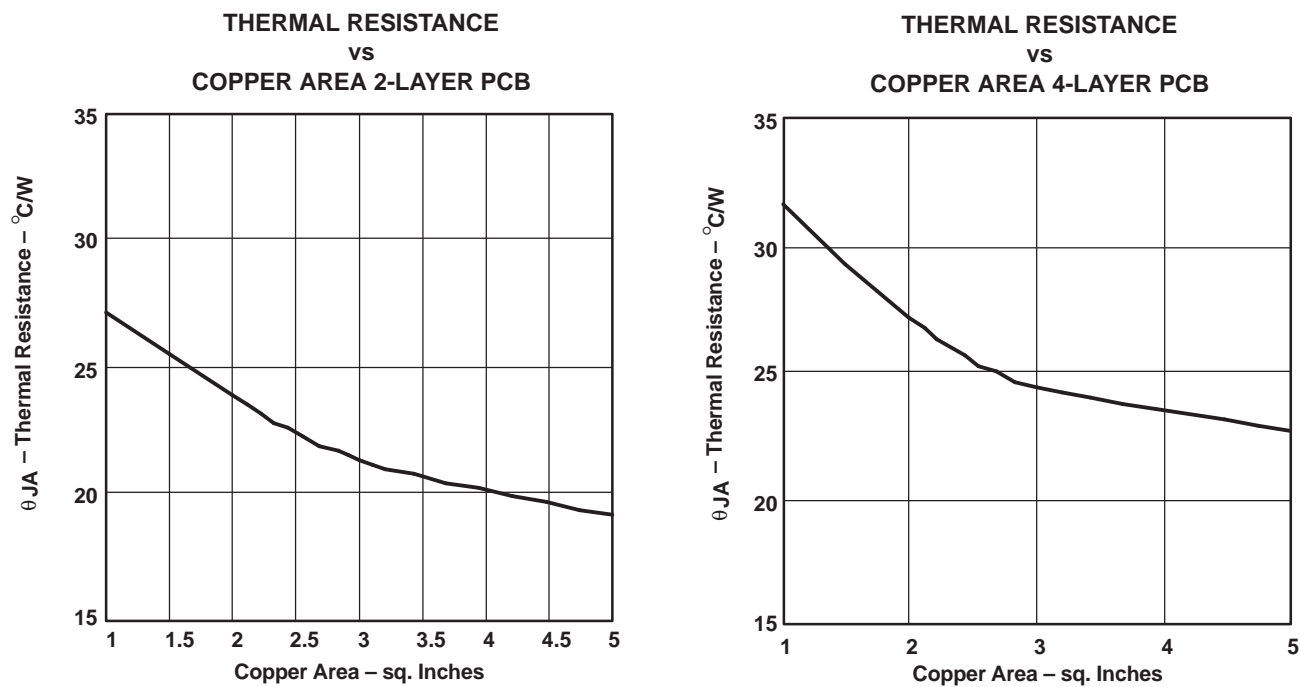
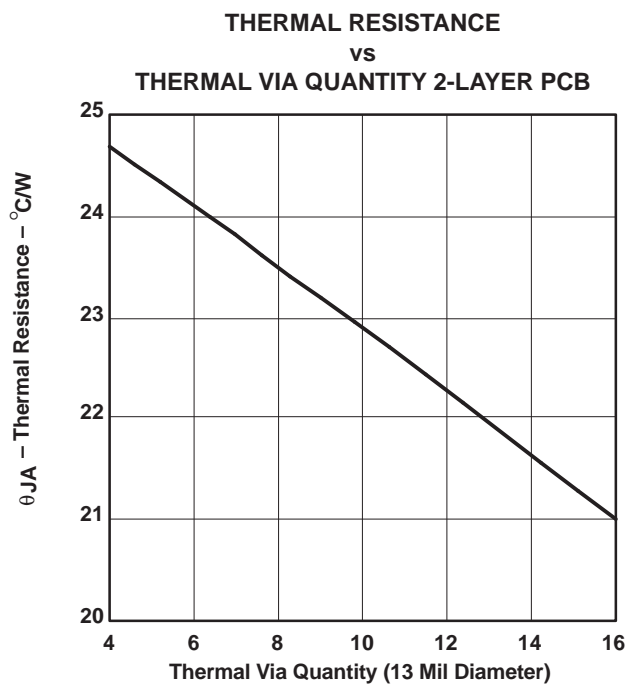

Figure 47. Thermal Resistance
Figure 48. Thermal Resistance
$\theta_{\text{JA}} = 19^\circ\text{C/W}$       2-Layer PCB, 5 sq. in. copper, see Figure 47.
**Figure 47** and **Figure 48** show the results of several thermal experiments conducted with the TPA3004D2. Both figures show that the best thermal performance can be achieved with more copper area for heat dissipation and an adequate number of thermal vias.
**Figure 47** shows two curves for a 2-layer and 4-layer PCB. The 2-layer PCB layout was tightly controlled with a fixed amount of 2 oz. copper on the bottom layer of the PCB. The amount of copper is shown on the x-axis. Nine thermal vias of 13 mil (0.33mm) diameter were drilled under the PowerPad and connected to the bottom layer. The top layer only consisted of traces for signal routing.
**Figure 48** shows the effect of the number of thermal vias drilled under the PowerPad on the thermal performance of the PCB. The experiment was conducted with a 2-layer PCB and 3 square inches of copper on the bottom layer. For the best thermal performance, at least 16 vias in a 4x4 pattern should be used under the PowerPad. Refer to the TPA3004D2 EVM User's Manual, SLOU115, for an example layout with a 4x4 via pattern. PCB gerber files are available at request.